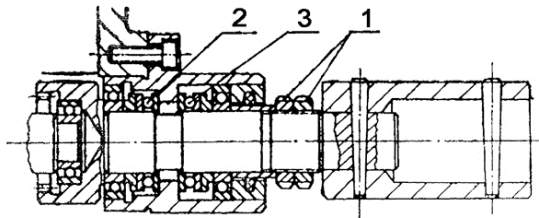

Figure 48 – Lead screw runout adjustment
To ensure the pitch accuracy in cutting threads, any axial run-out of the lead screw must be eliminated. See Figure 48. This is achieved by adjusting the thrust bearings (2 and 3) using the nut (1).